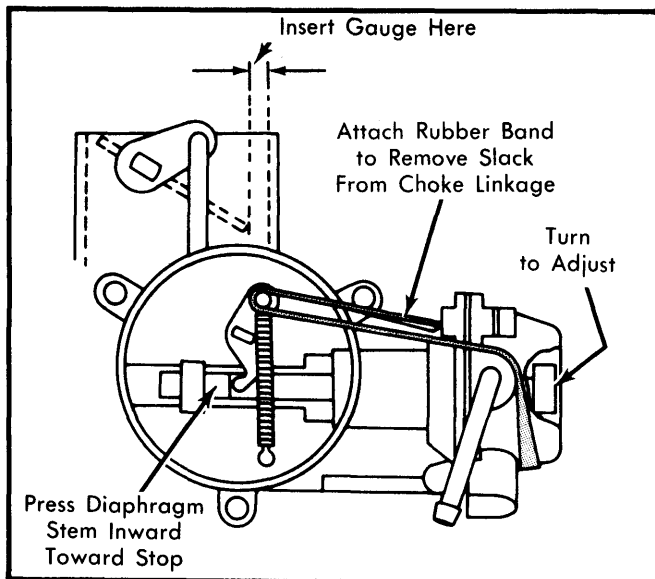

Fig. 5 Adjusting Choke Vacuum Kick
1) Remove choke cap assembly. Place fast idle speed screw on highest step of fast idle cam. Place rubber band on choke linkage to remove all slack from choke linkage. See Fig. 5.